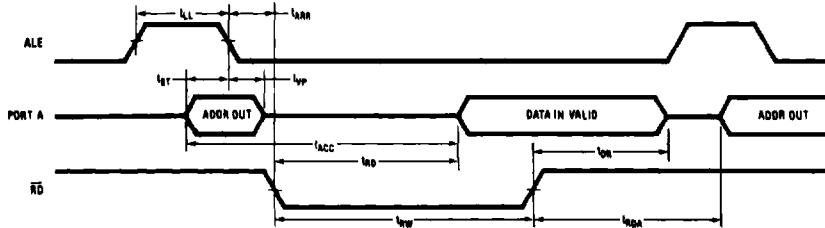

FIGURE 1. CPU and DMA Read Cycles
**CPU Read Cycle Timing** (See Figure 1)
**DMA Read Cycle Timing**  $t_C = 20$  MHz (See Figure 1)